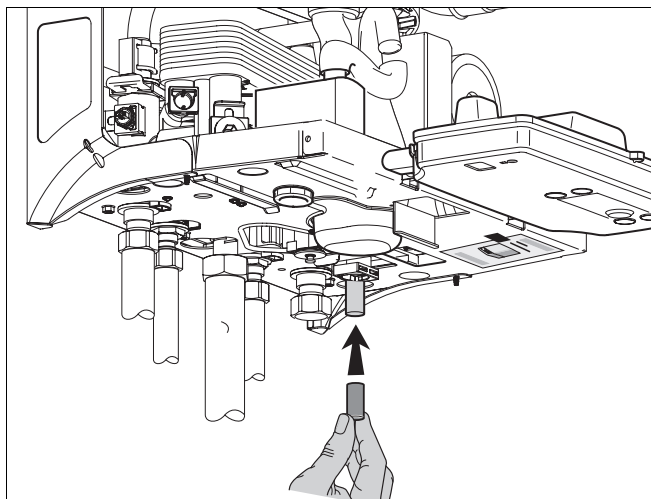

fig. 5 Insert pipe
- Insert the small piece of pipe (fig. 5).